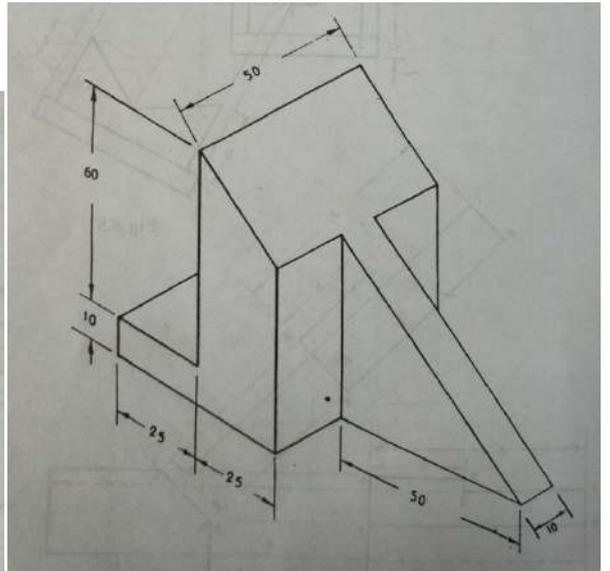

Fig.6
8. Draw the auxiliary view of the sloping surface of the object shown in **Fig. 6**.